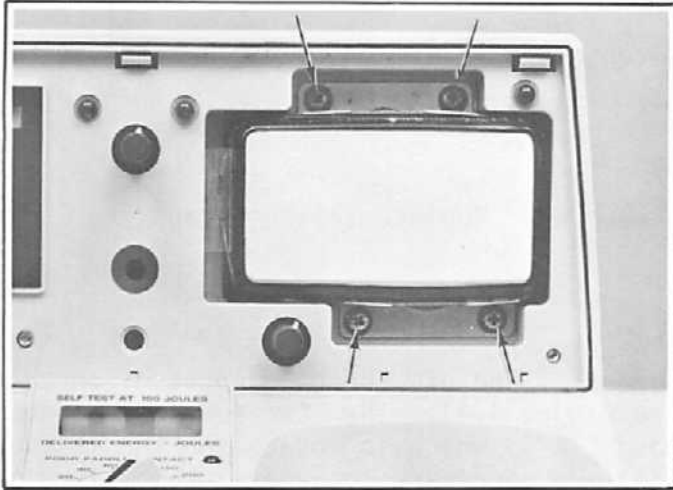
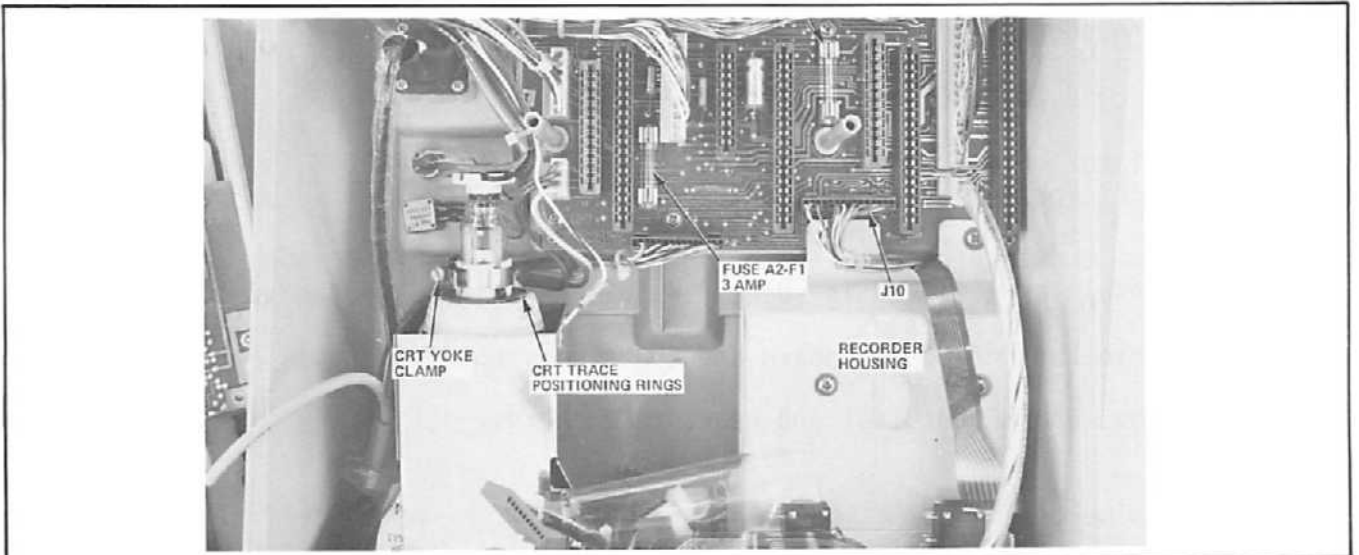

Figure 4-13.
Figure 4-15.
6. Loosen, but do not remove the yoke clamp screw (see Figure 4-15). Remove four screws (two above and two below) from the face of the CRT (see Figure 4-13).
15. Center the trace by moving the trace centering levers on the yoke (see Figure 4-15). Refer to section 3.
There are three fuses used in this instrument. One of these is located on the defibrillator H.V. supply board (A11) (see Figure 4-4). The two remaining fuses are located on the interconnect circuit board (A2), which is located on the inside top of the case (see Figure 4-15). It will be necessary to remove some circuit boards to gain access to the fuses.
9. Unplug the recorder cable from J10 (see Figure 4-15).